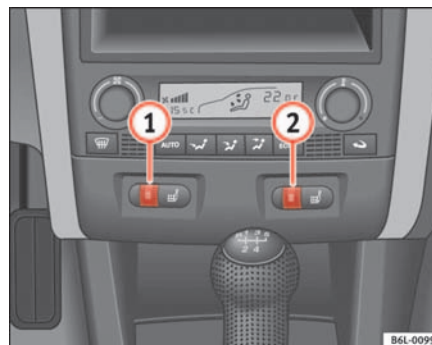

Fig. 75 Thumb wheel for the front seat heating ▶
- Turn the appropriate thumb wheel ⇒ page 106, fig. 75 to switch on the seat heating. The seat heating is switched off in the 0 position.